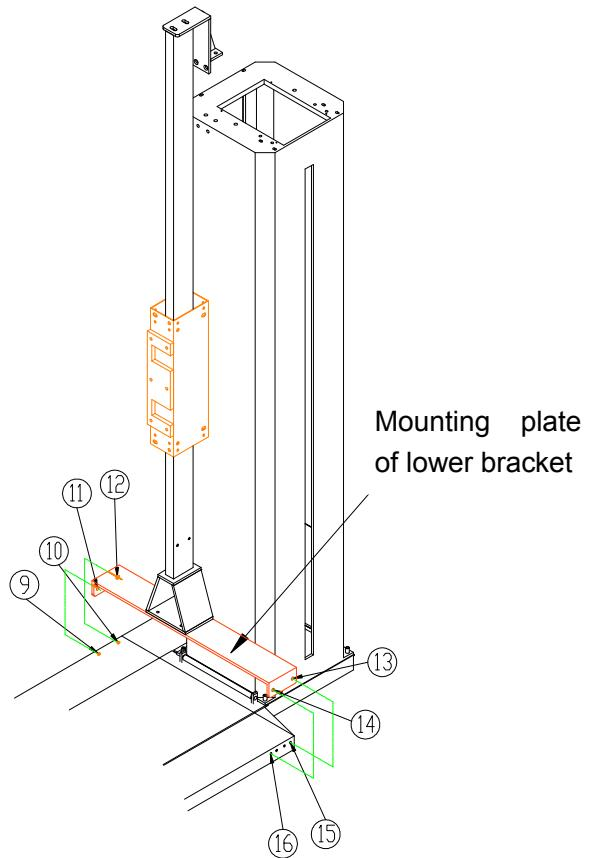

FIG 2-11-2
7. Assembly of the top presser and the base: As shown in FIG 2-11-2, erect the whole top presser which has been installed, and connect the hole ⑪ on the mounting plate of the lower bracket with the holes ⑨ and ⑩ on the base, with 2 M8 screws. Connect the holes ⑬ and ⑭ on the mounting plate of the lower bracket with the holes ⑮ and ⑯ on the base, with 2 M8 screws, thus the lower end installation of the top presser is finished.